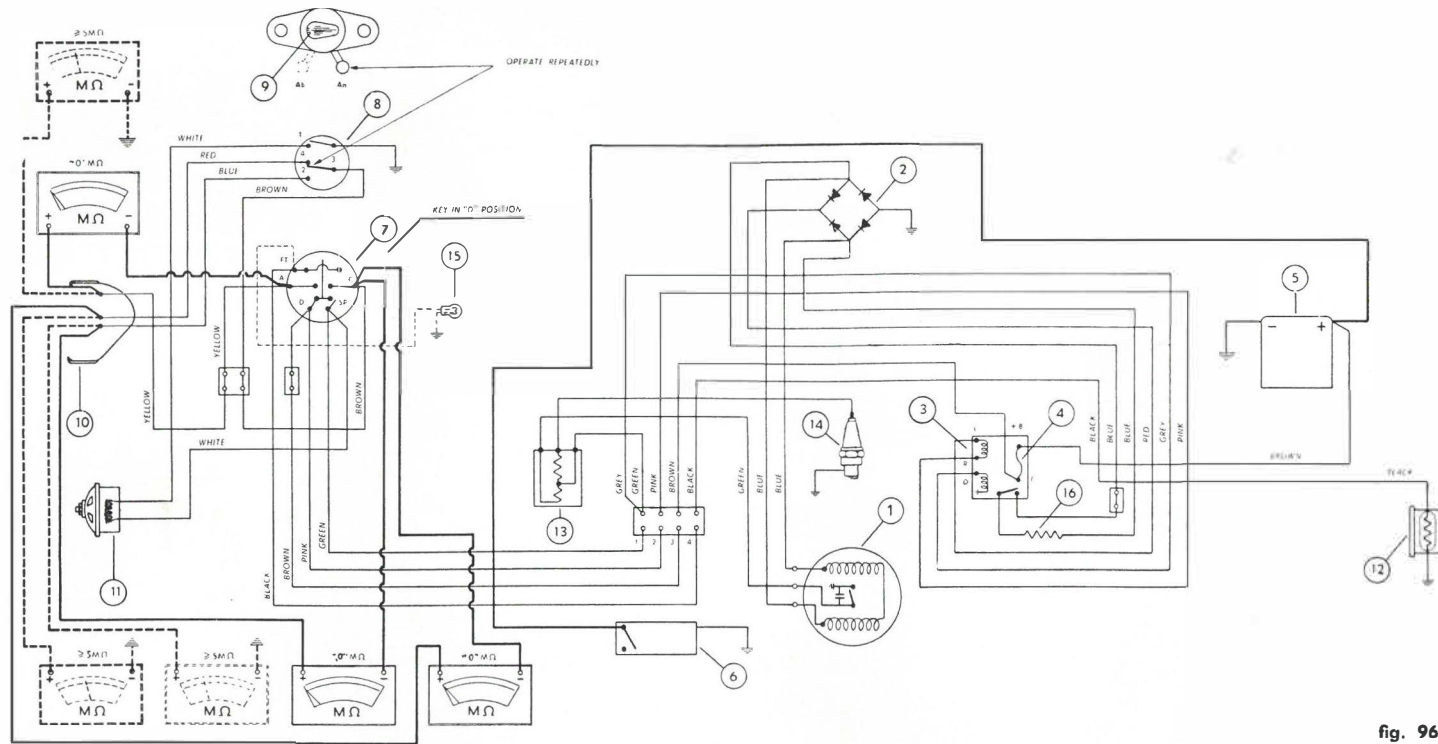

fig. 96
d) Headlamp circuit (fig. 96). Remove bulbs from their sockets in the headlamp and with key in « O » position measure insulation between earth and termi-